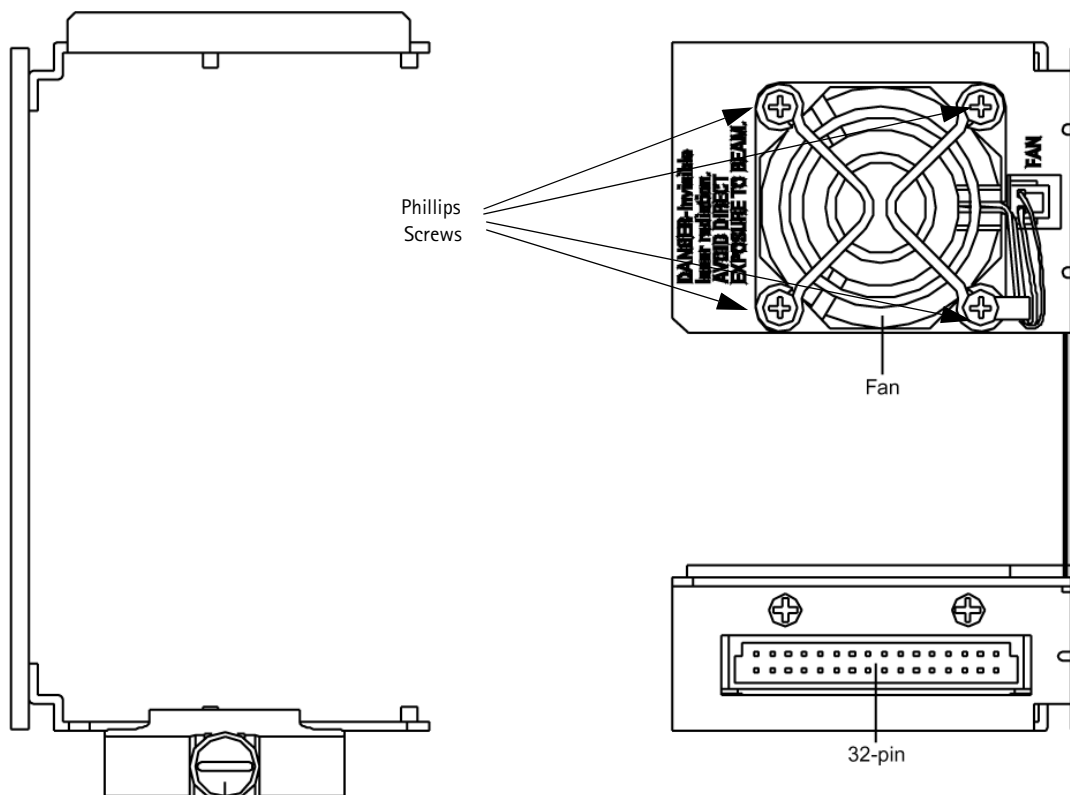

Figure 5-1: HMC 4001 fan replacement
2. Remove the four Phillips head screws, shown in Figure 5-1 on page 29, that secure the fan to the module housing.